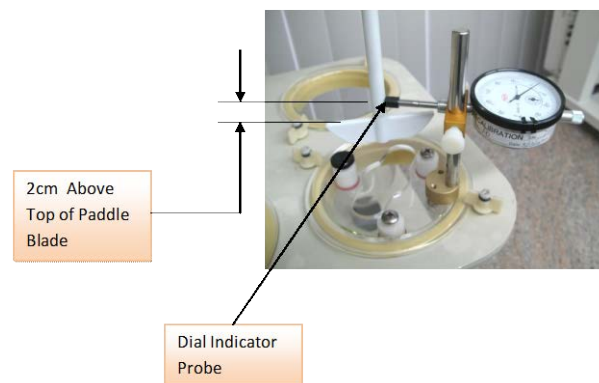

Figure 11
4.5.1.3 With the paddle shaft secured, lower and position the dissolution drive head so that the dial indicator probe is located about 2cm above the top of the paddle blade and adjust the location of the indicator assembly to establish a pre-load of at least one revolution of the indicator dial. Tighten the thumb screws to lock the gage in place. See Figure 11.